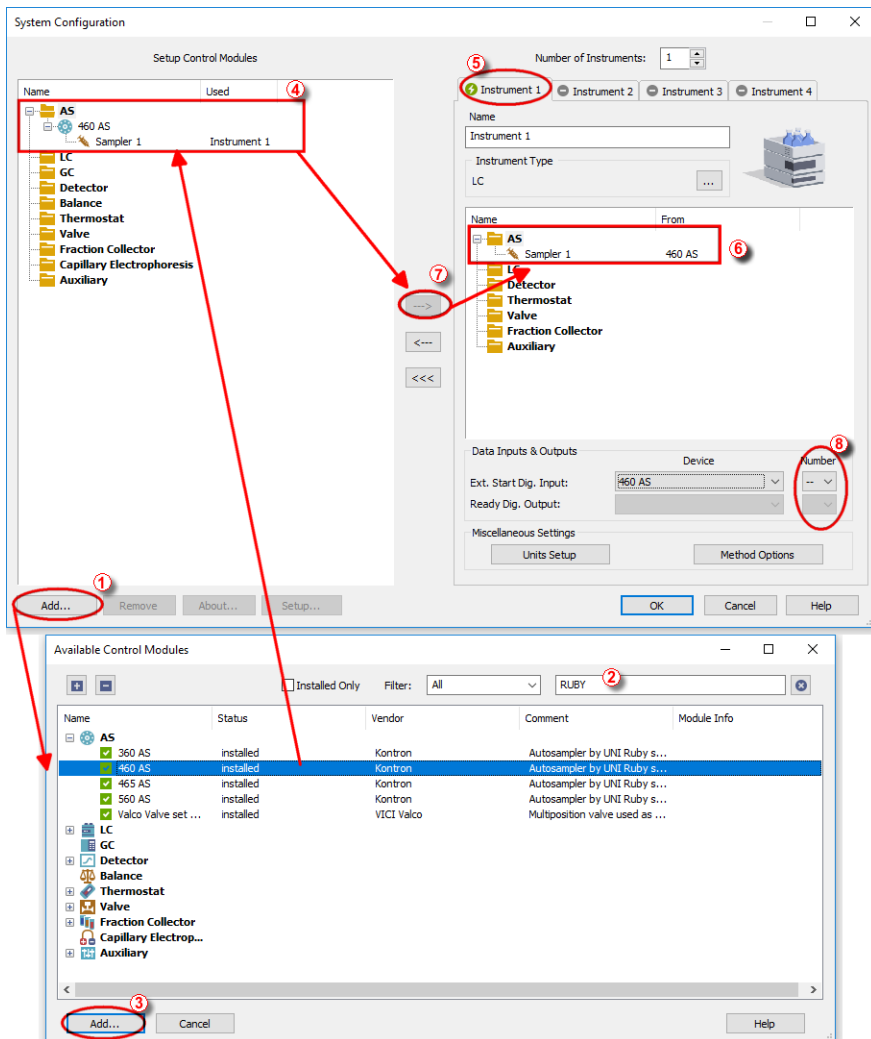

Fig 3: How to Add Kontron 460/465 module
- Press the *Add* button (① on **Fig 3** on pg 4.) to invoke the **Available Control Modules** dialog.
- You can specify the search filter (②) to simplify the finding of the driver.
- Select the correct item and press the *Add* (③ on **Fig 3** on pg 4.) button. Each device with already created UNI profile should have its own item named accordingly in the **Available Control Modules** dialog.